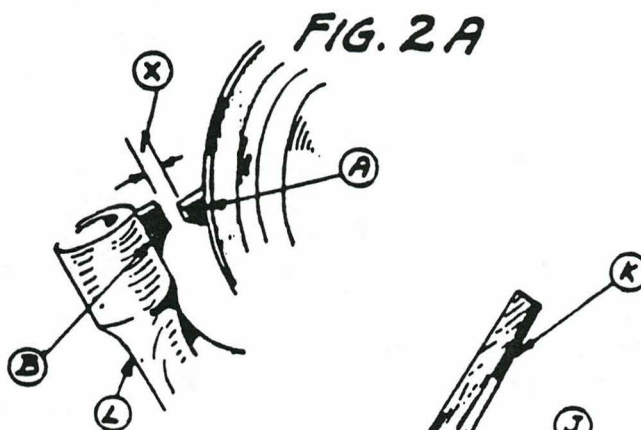

FIG. 2A
(AT THIS POINT THE DOG (A) AND THE STOP BOLT (B) (FIG. 2A) ARE ABOUT 1/8" APART AT (X))